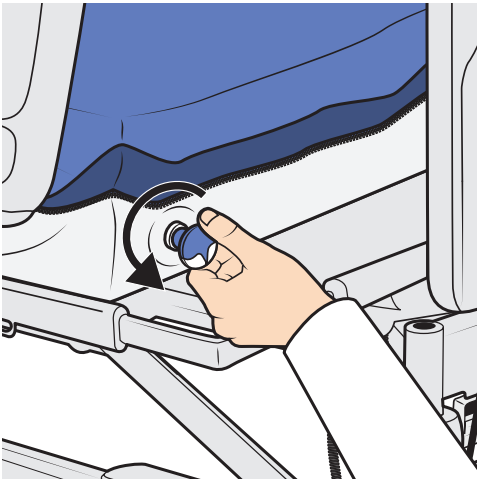

Figure 57
2. Turn the valve (under the valve symbol) on the bolster fully anti-clockwise. See figure 57